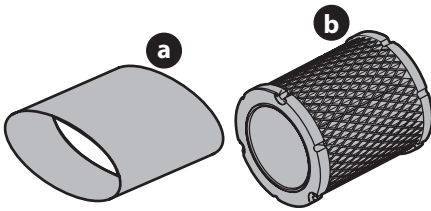

Figure 10
- Remove the foam pre-filter (a) from around the paper air filter (b) (Figure 10). Replace paper element when dirty or damaged. Clean foam element or replace when damaged.